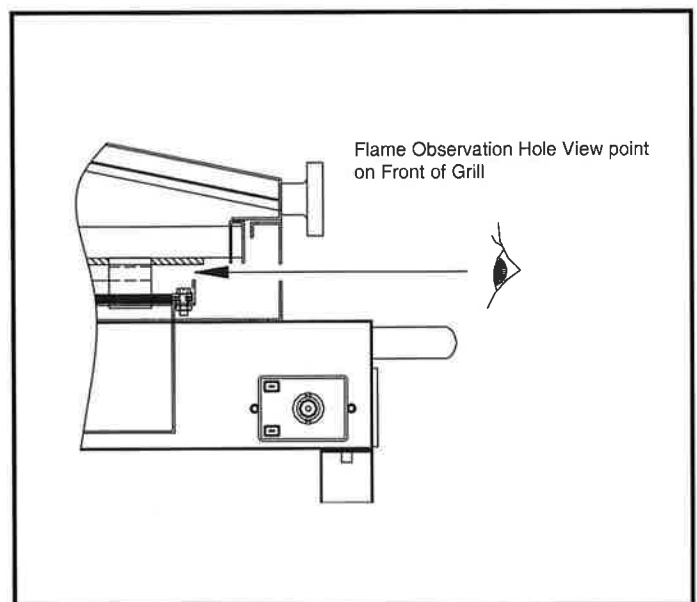

Figure 8. Flame Observation Hole Viewpoint
4. Push the Spark Igniter Button while checking for flame. Flame may be visually seen by looking into the Flame Observation Hole in the front of the grill. (See Figure 8, Page 9) Also one can generally hear the burner ignite and then feel warmth rising to the cooking surface at the front and back of the Radiant Glass Panel when ignition occurs. If flame is not present and ignition does not occur within 10 seconds, turn Burner Output Knob to "OFF" and wait 5 minutes before attempting to relight the grill. After waiting 5 minutes repeat steps 3 and 4.